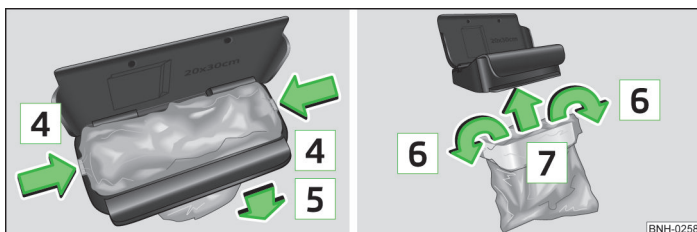

Fig. 68 Replace bags
- Push the two catches of the inner frame in the direction of the arrow » Fig. 68.